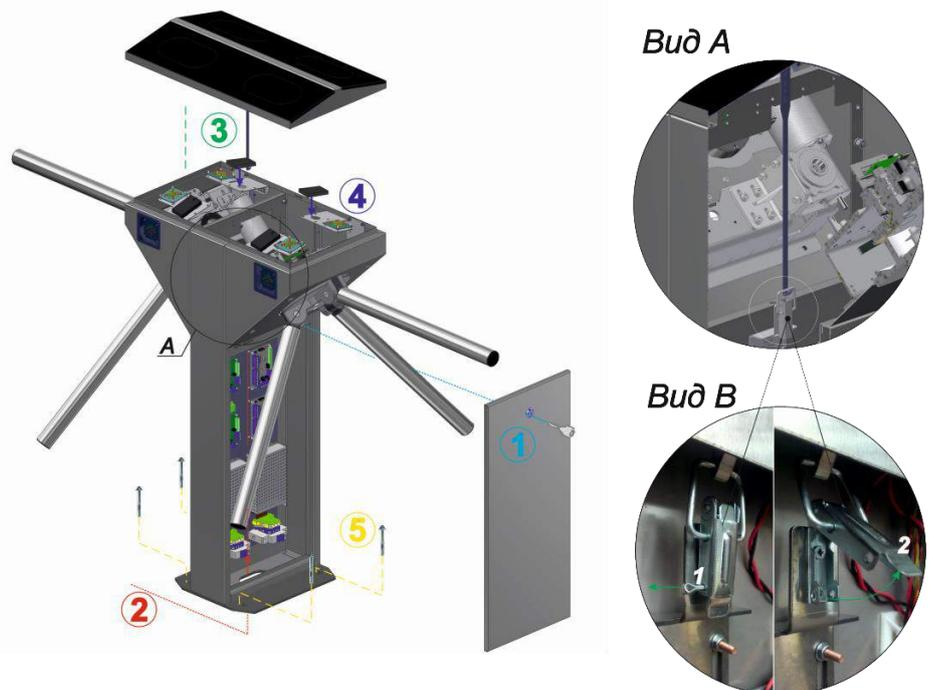

Fig. 13 – General view of the " CENTURION TWIN" and "BASTION TWIN" tripod turnstiles assembly
8) The rack door to be removed by turning the lock key (Fig.13) to access to the " «CENTURION TWIN » and «BASTION TWIN » tripod turnstile base fixation and service holes as well as terminal blocks.
The lock pin (1) to be removed and the latch (2) to be opened by lifting it up to remove the rack lid (Fig.13 , View A /B).